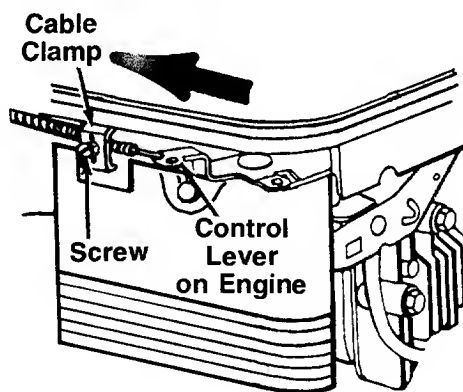

FIGURE 17A.—Models 434R, 436R and 438R
1. Remove the screw shown in figure 17A. Remove the cable clamp from the cable.